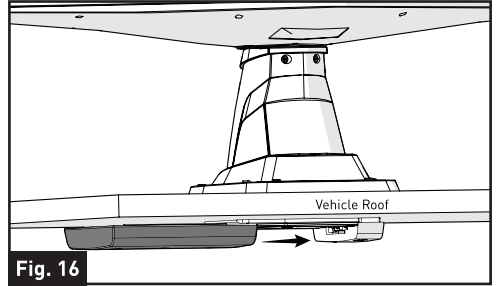

Fig. 16
4. Place back the top cover to the ceiling mount bracket. (Fig. 16)